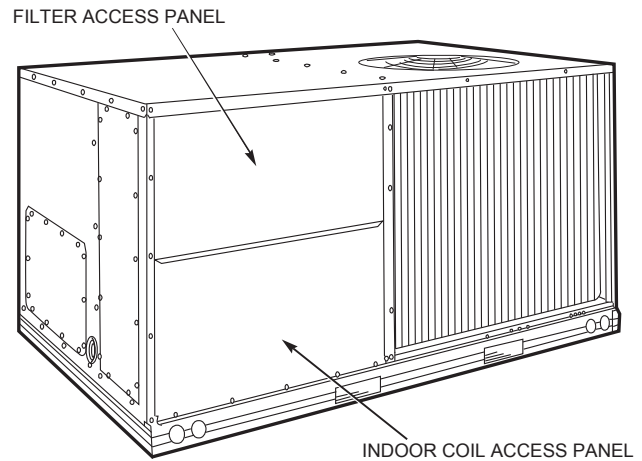

Fig. 9 — Typical Access Panel Locations
2. To gain access to the hood, remove the filter access panel. (See Fig. 9.)